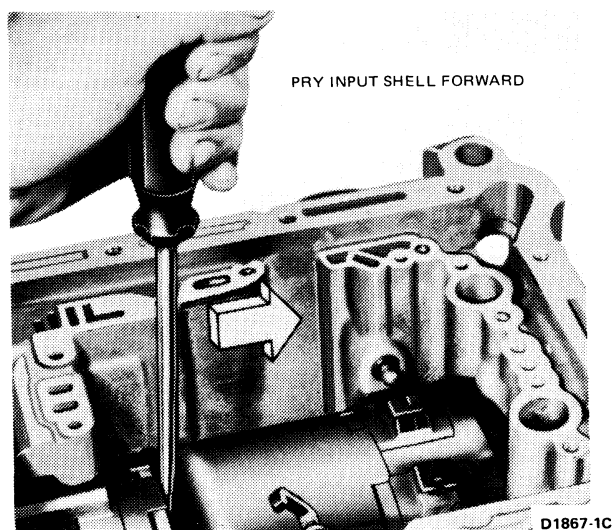

FIG. 19 Removing Front Pump
3. Remove the seven front pump attaching bolts. Insert a screwdriver behind the input shell (Fig. 19) and move the input shell forward until the front pump seal is above the edge of the case. Remove the front pump and gasket from the case. If the selective thrust washer No. 1 did not come out with the front pump, remove it from the top of the reverse-high clutch.